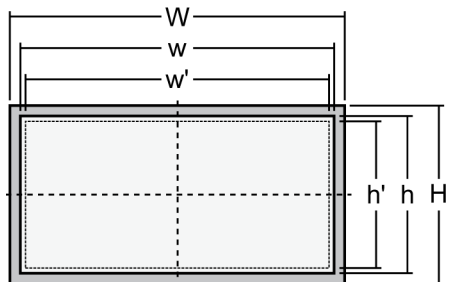

Fig. 18: Cutout schematic
1. ➤ Cut out the panel according to the dimensions in Fig. 18.